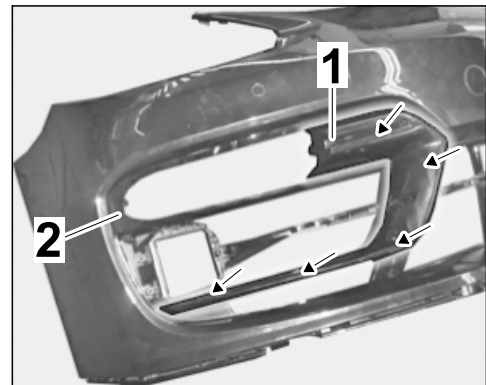

Figure 21
- 4.7 Clip outer air grille (C blade vane) \Rightarrow *Figure 21-1* into the frame \Rightarrow *Figure 21-2* (\Rightarrow *Figure 21* -arrows-).